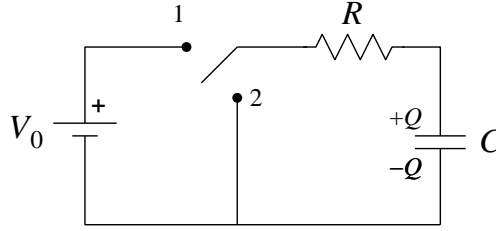

Figure 5.1: Simple charging/discharging circuit for a capacitor.
Figure 5.1 shows an idealized circuit for studying the charging and discharging of a capacitor.
**Discharging:** Consider next the case when the capacitor is discharging. Suppose that the capacitor has a charge  $Q_0$  on it and the switch is moved to position 2 (Figure 5.1), Kirchhoff's first rule yields: